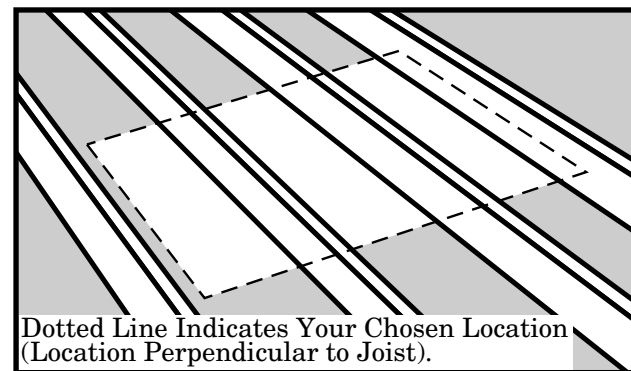

Figure 11
- (B) If the chosen location is perpendicular to the joists, mark the rough opening width on top of the joists as shown in Figure 11. **Do not cut the joist at this mark.**